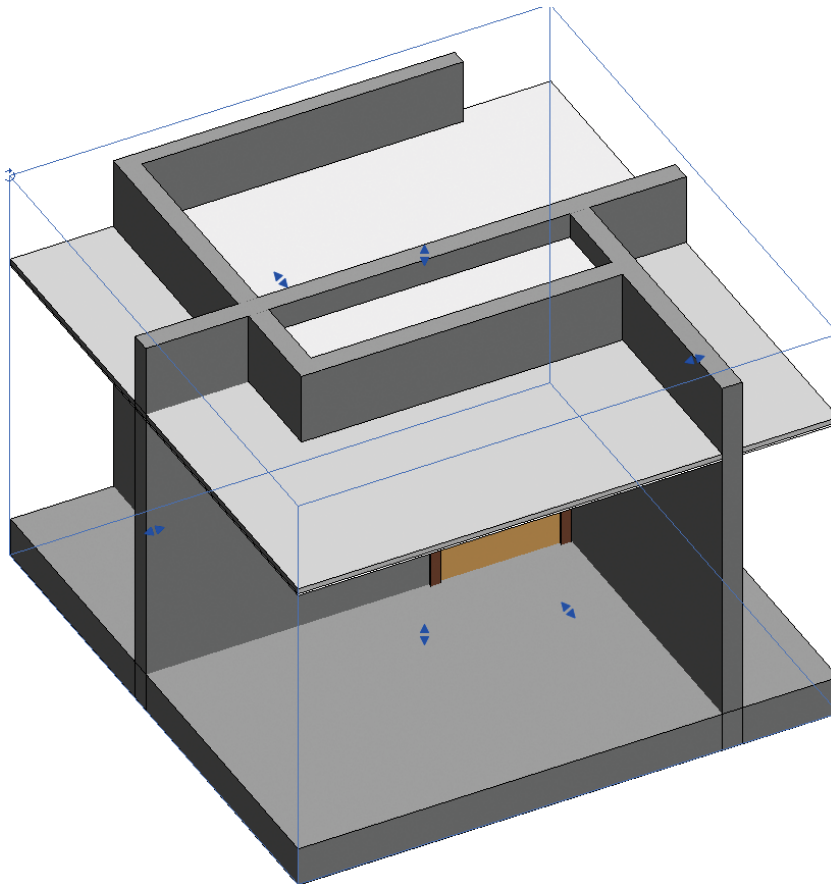

FIGURE 3.37 Orienting the section box to the 3D view
4. To get a better idea of the finished configuration in 3D, go to a 3D view and orient a section box of the Level 1 plan view. Right-click the ViewCube, and from the Floor Plans flyout of the context menu, select Level 1. Orbit the view or use the ViewCube to choose the desired angle. Then use the grip arrows to pull the boundaries of the section box to resemble Figure 3.37. You'll find that working this way is helpful because having both 2D and 3D views aids in communicating any design issues.